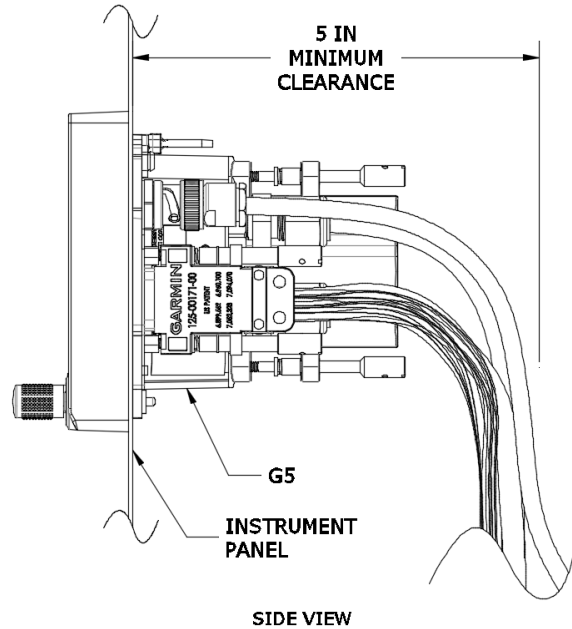

Figure 4-14, Clearance for Connections
- 7) The location of the hole must allow for sufficient clearance for the G5 electrical and pneumatic connections, see Figure 4-14.
- 2) The proposed location must allow for sufficient clearance for the G5 unit and connections as shown in Figure 4-14.